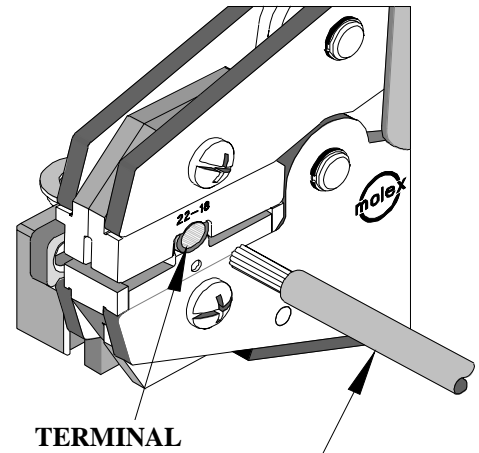

Figure 2
2. Partially close the tool to hold the terminal in place (See Figure 2).
3. Insert the properly stripped wire into the terminal barrel (See Figure 2 and 3). Twist the stripped wires before inserting them into the terminal. The wires end should butt against the wire stop position of the locator. Cycle the tool.